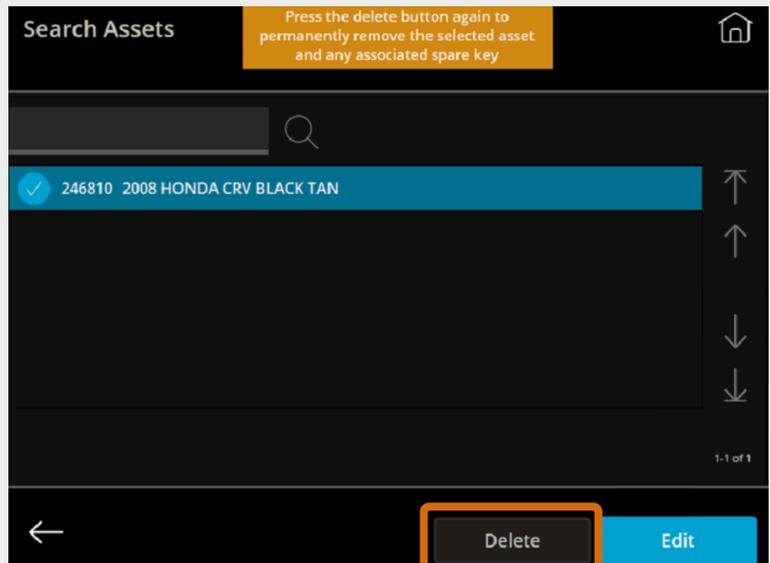

Fig. 28 – Search Assets screen with the Delete button indicated
8. Press **Delete** again, as shown in Fig. 28.